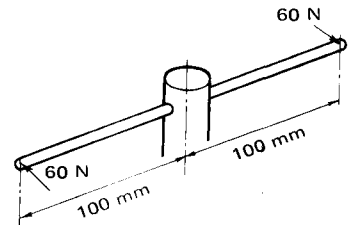

Fig. 2.35
**Example.** A tommy bar is used to operate a box spanner (see Fig. 2.35). What turning moment do the forces produce?